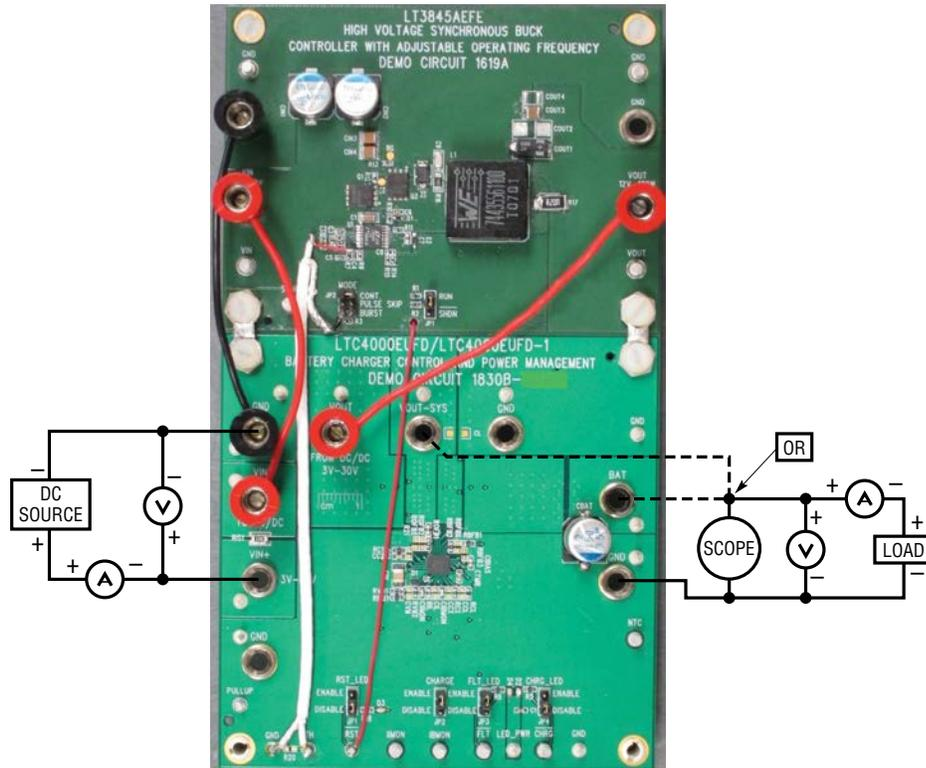

Figure 1. Fixture Connections and Measurement Equipment Setup
Once the circuit has been customized to suit the application at hand, it is easy to set up to evaluate the performance of the LTC4000 when combined with a suitable switching power converter, such as the LTC3845A. Voltages and currents cited in this procedure are for the design as delivered; if the design has been customized, substitute the appropriate values. Refer to Figure 1 for proper measurement equipment setup and follow the procedure below:
- b. If efficiency measurements are desired, refer to Figure 1 for the test setup.